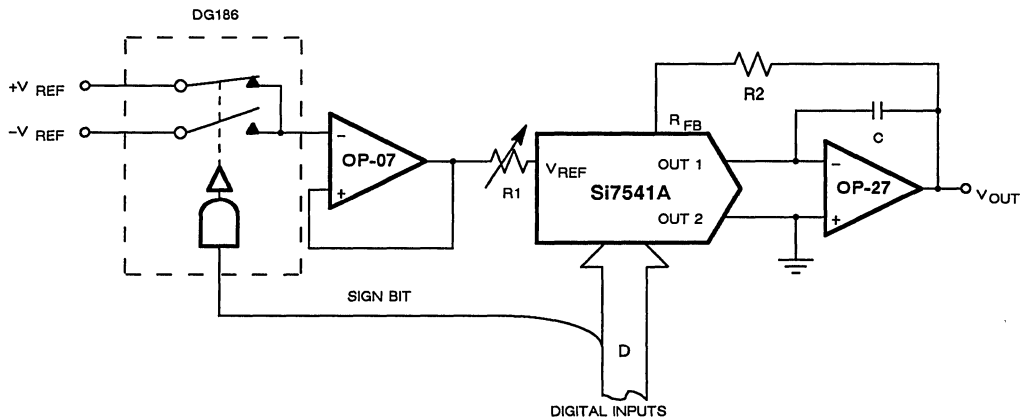

**Figure 23. 2's Complement Bipolar Configuration**
**Two's Complement.** The two's complement is essentially the same as the offset binary coding, with the exception of the MSB, which is inverted. As shown in Figure 23, R1 is adjusted to give an output of  $VO = -V_{IN}$  for an input of 1000 0000 0000. R2 is then adjusted for  $VO = (2047/2048) V_{IN}$  with a digital word of 0111 1111 1111. This circuit has the same disadvantages as the offset binary bipolar circuit, that is, an 11-bit resolution limitation and a 2-step calibration procedure. Table 3 shows the relationship between the two's complement binary codes and the analog output voltages.